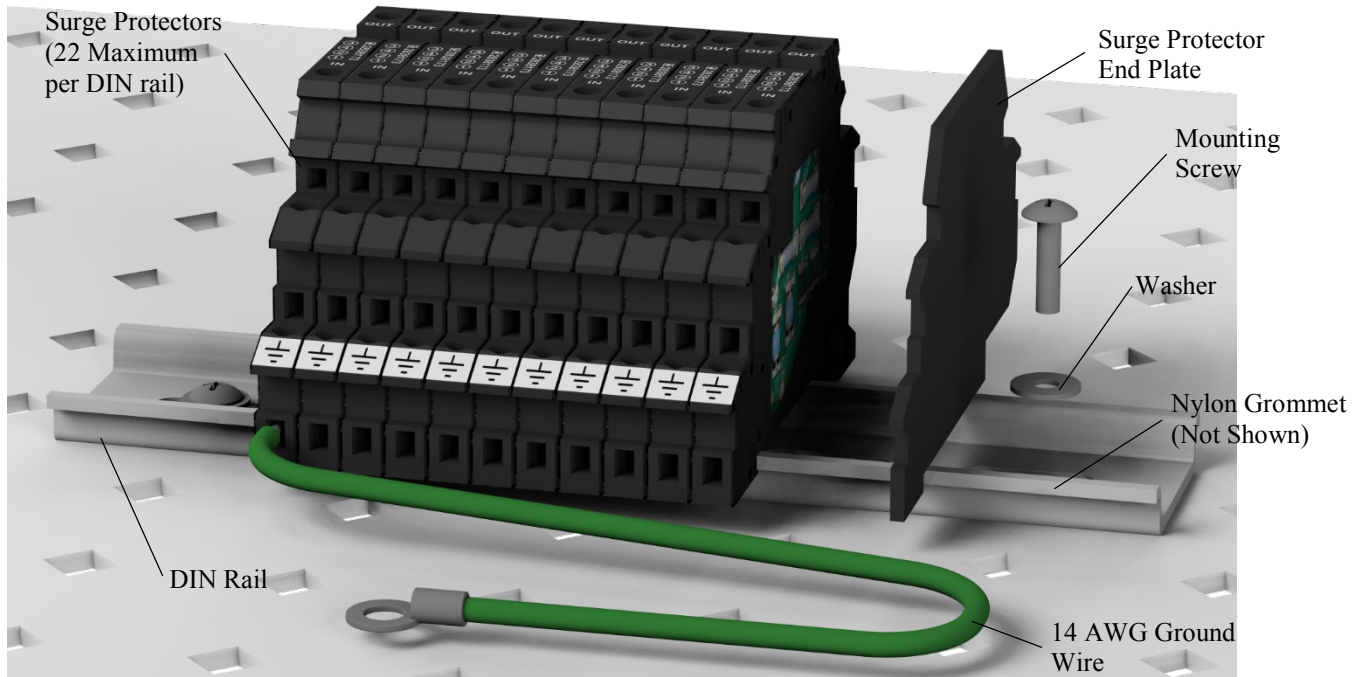

FIGURE 6-2. SVP100 with surge protectors installed
4. Press the end plate onto the open side of the last surge protector (see FIGURE 6-2).
The SVP100 is provided with a green 14 AWG ground wire (FIGURE 6-2) for connection to the ground lug in a Campbell Scientific enclosure. Remove the top nut on the ground lug and place the ring end of the ground wire on the ground lug. Replace the top nut. Insert the tinned end into any open ground clamp terminal (\oplus) on the surge protector. The ground lugs in each surge protector are connected together through contact with the DIN rail. Ground the enclosure to earth with 14 AWG or larger wire.